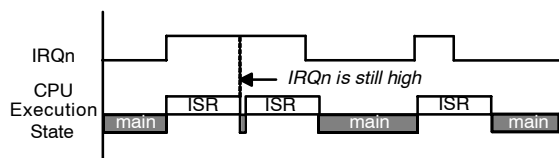
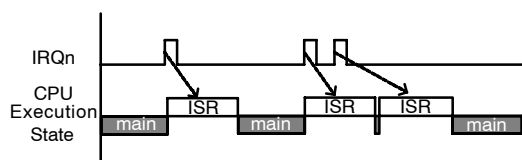

Figure 6. Level Interrupts
Figure 7. Pulse Interrupts
Figure 6 and Figure 7 show the working of level and pulse interrupts, respectively. Assuming the interrupt signal is initially inactive (logic low), the following sequence of events explains the handling of level and pulse interrupts:
3. When the ISR is being executed by the CPU, one or more rising edges of the interrupt signal are logged as a single pending request. The pending interrupt is serviced again after the current ISR execution is complete (see Figure 7 for pulse interrupts).
4. If the interrupt signal is still high after completing the ISR, it will be pending and the ISR is executed again. Figure 6 illustrates this for level triggered interrupts, where the ISR is executed as long as the interrupt signal is high.